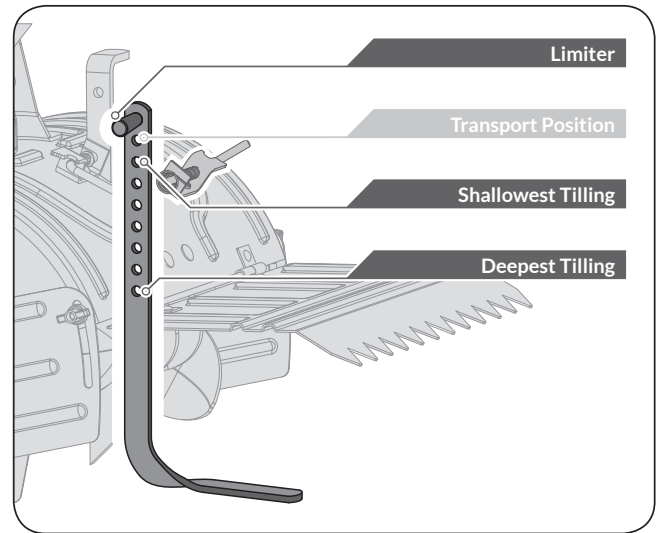

Figure 5b
6. Adjust the depth stake to the desired depth of tilling. (See **Figure 5b**)